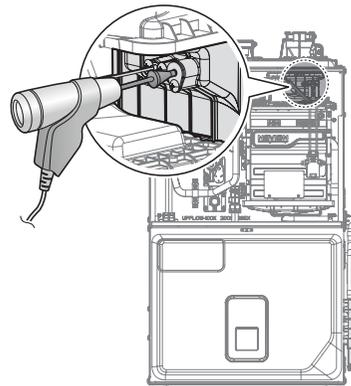

Figure 7. Insert the Analyzer
- b. Insert the analyzer into the port (Figure 7).